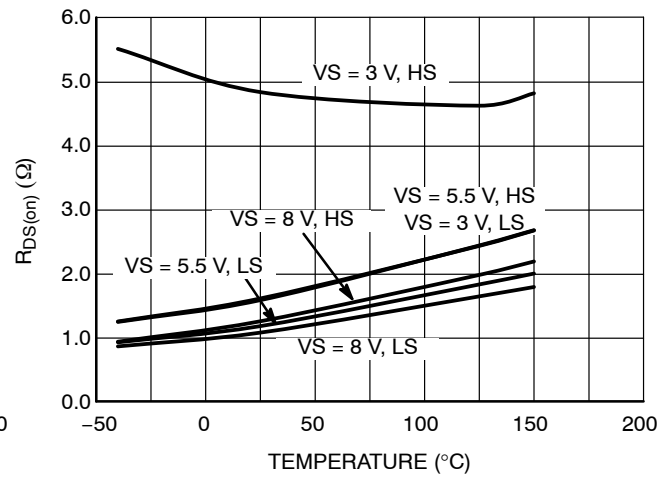

Figure 11. R_{DS(on)} vs. Temperature
- Refer to Figures 11 and 14 for $R_{DS(on)}$ behavior.